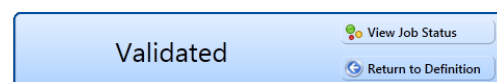

Figure 9-53. Validated Message
- 12 To validate the definition, click the **Prevalidate** button. When the validation process completes and the following message displays (Figure 9-53), click **View Job Status** to open the *Job Status* window or **Return to Definition** to open the *Definitions* window.